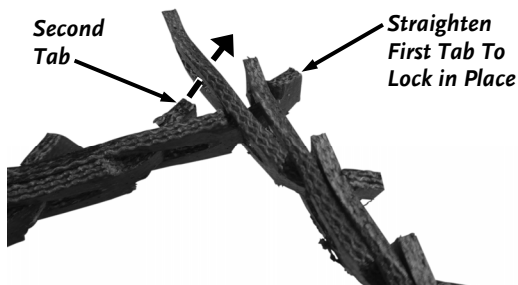

Figure 25
3. Twist the end of the Tab to lock it into position (**Figure 25**).